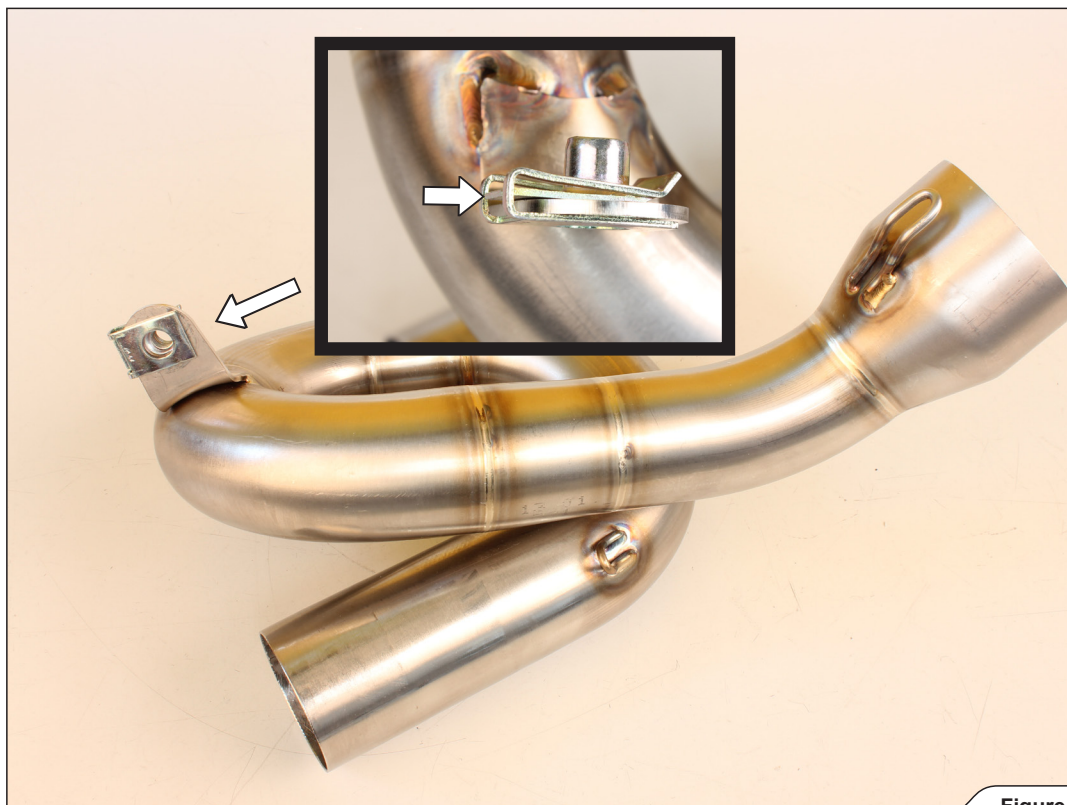

Figure 9
2. Mount the press-on nut from Akrapovič installation kit, onto the link pipe's bracket, as shown (Figure 9).